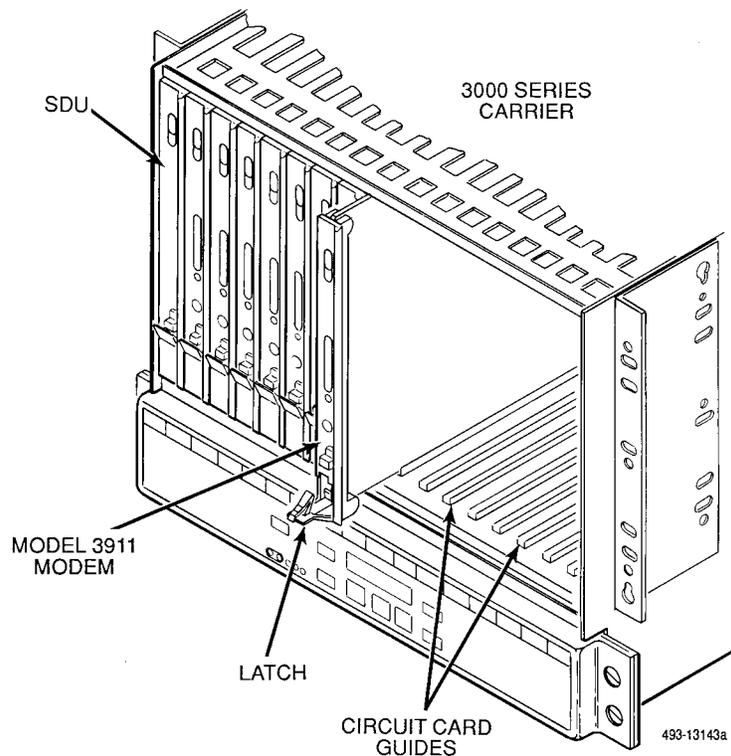

Figure 2. Installing a Model 3911 Modem
2. At the front of the carrier, hold the modem vertically, with the latch on its faceplate in the open position, and insert it into the top and bottom card guides of one of the slots numbered 1–16 (Figure 2).